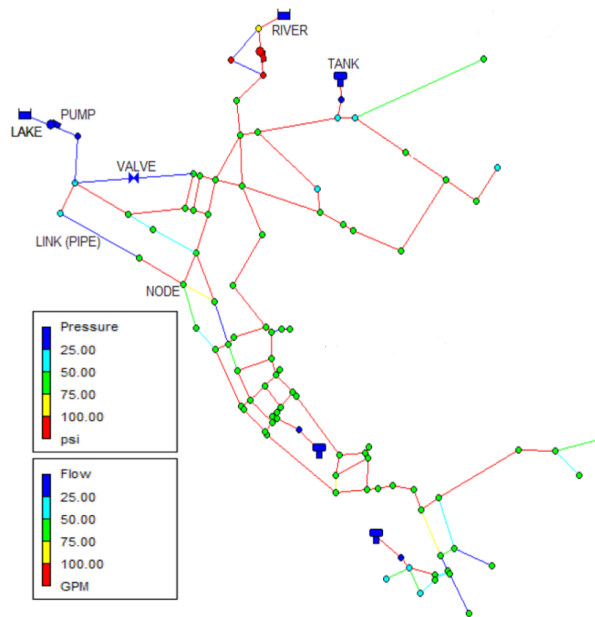

Figure 6: Example of a hydraulic model with the lines (pipes) colored for flow and nodes (branch connections) colored for pressure.
- Hydraulic model (see Figure 6),